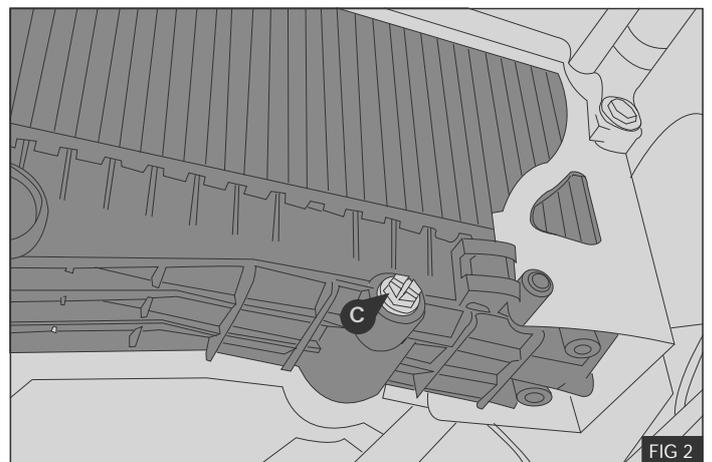

FIG 2
4. Remove and retain the radiator drain plug **C** and drain the coolant - Fig.2